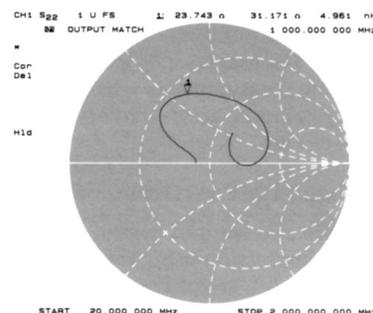

Figure 11. Complex impedance measurement
2. Display the output impedance by measuring S_{22} in Smith chart format. Figure 11 shows amplifier output impedance. Markers used with this format display $R + jX$. In fact, the reactance is displayed as equivalent capacitance or inductance at the marker frequency.